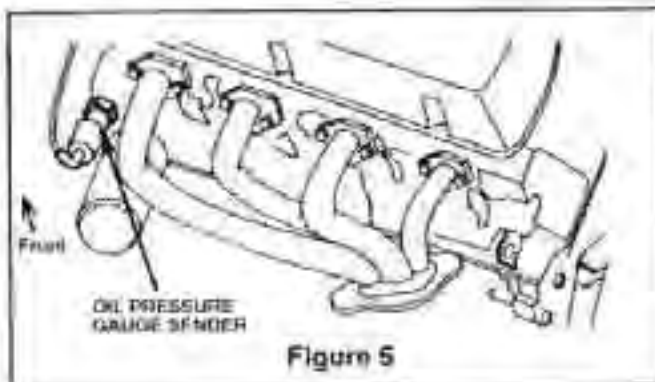

Figure 5
- 8.5 Connect the oil pressure gauge W/T wire connector to the oil sender, located on the drivers side of the block. (See Figure 5)